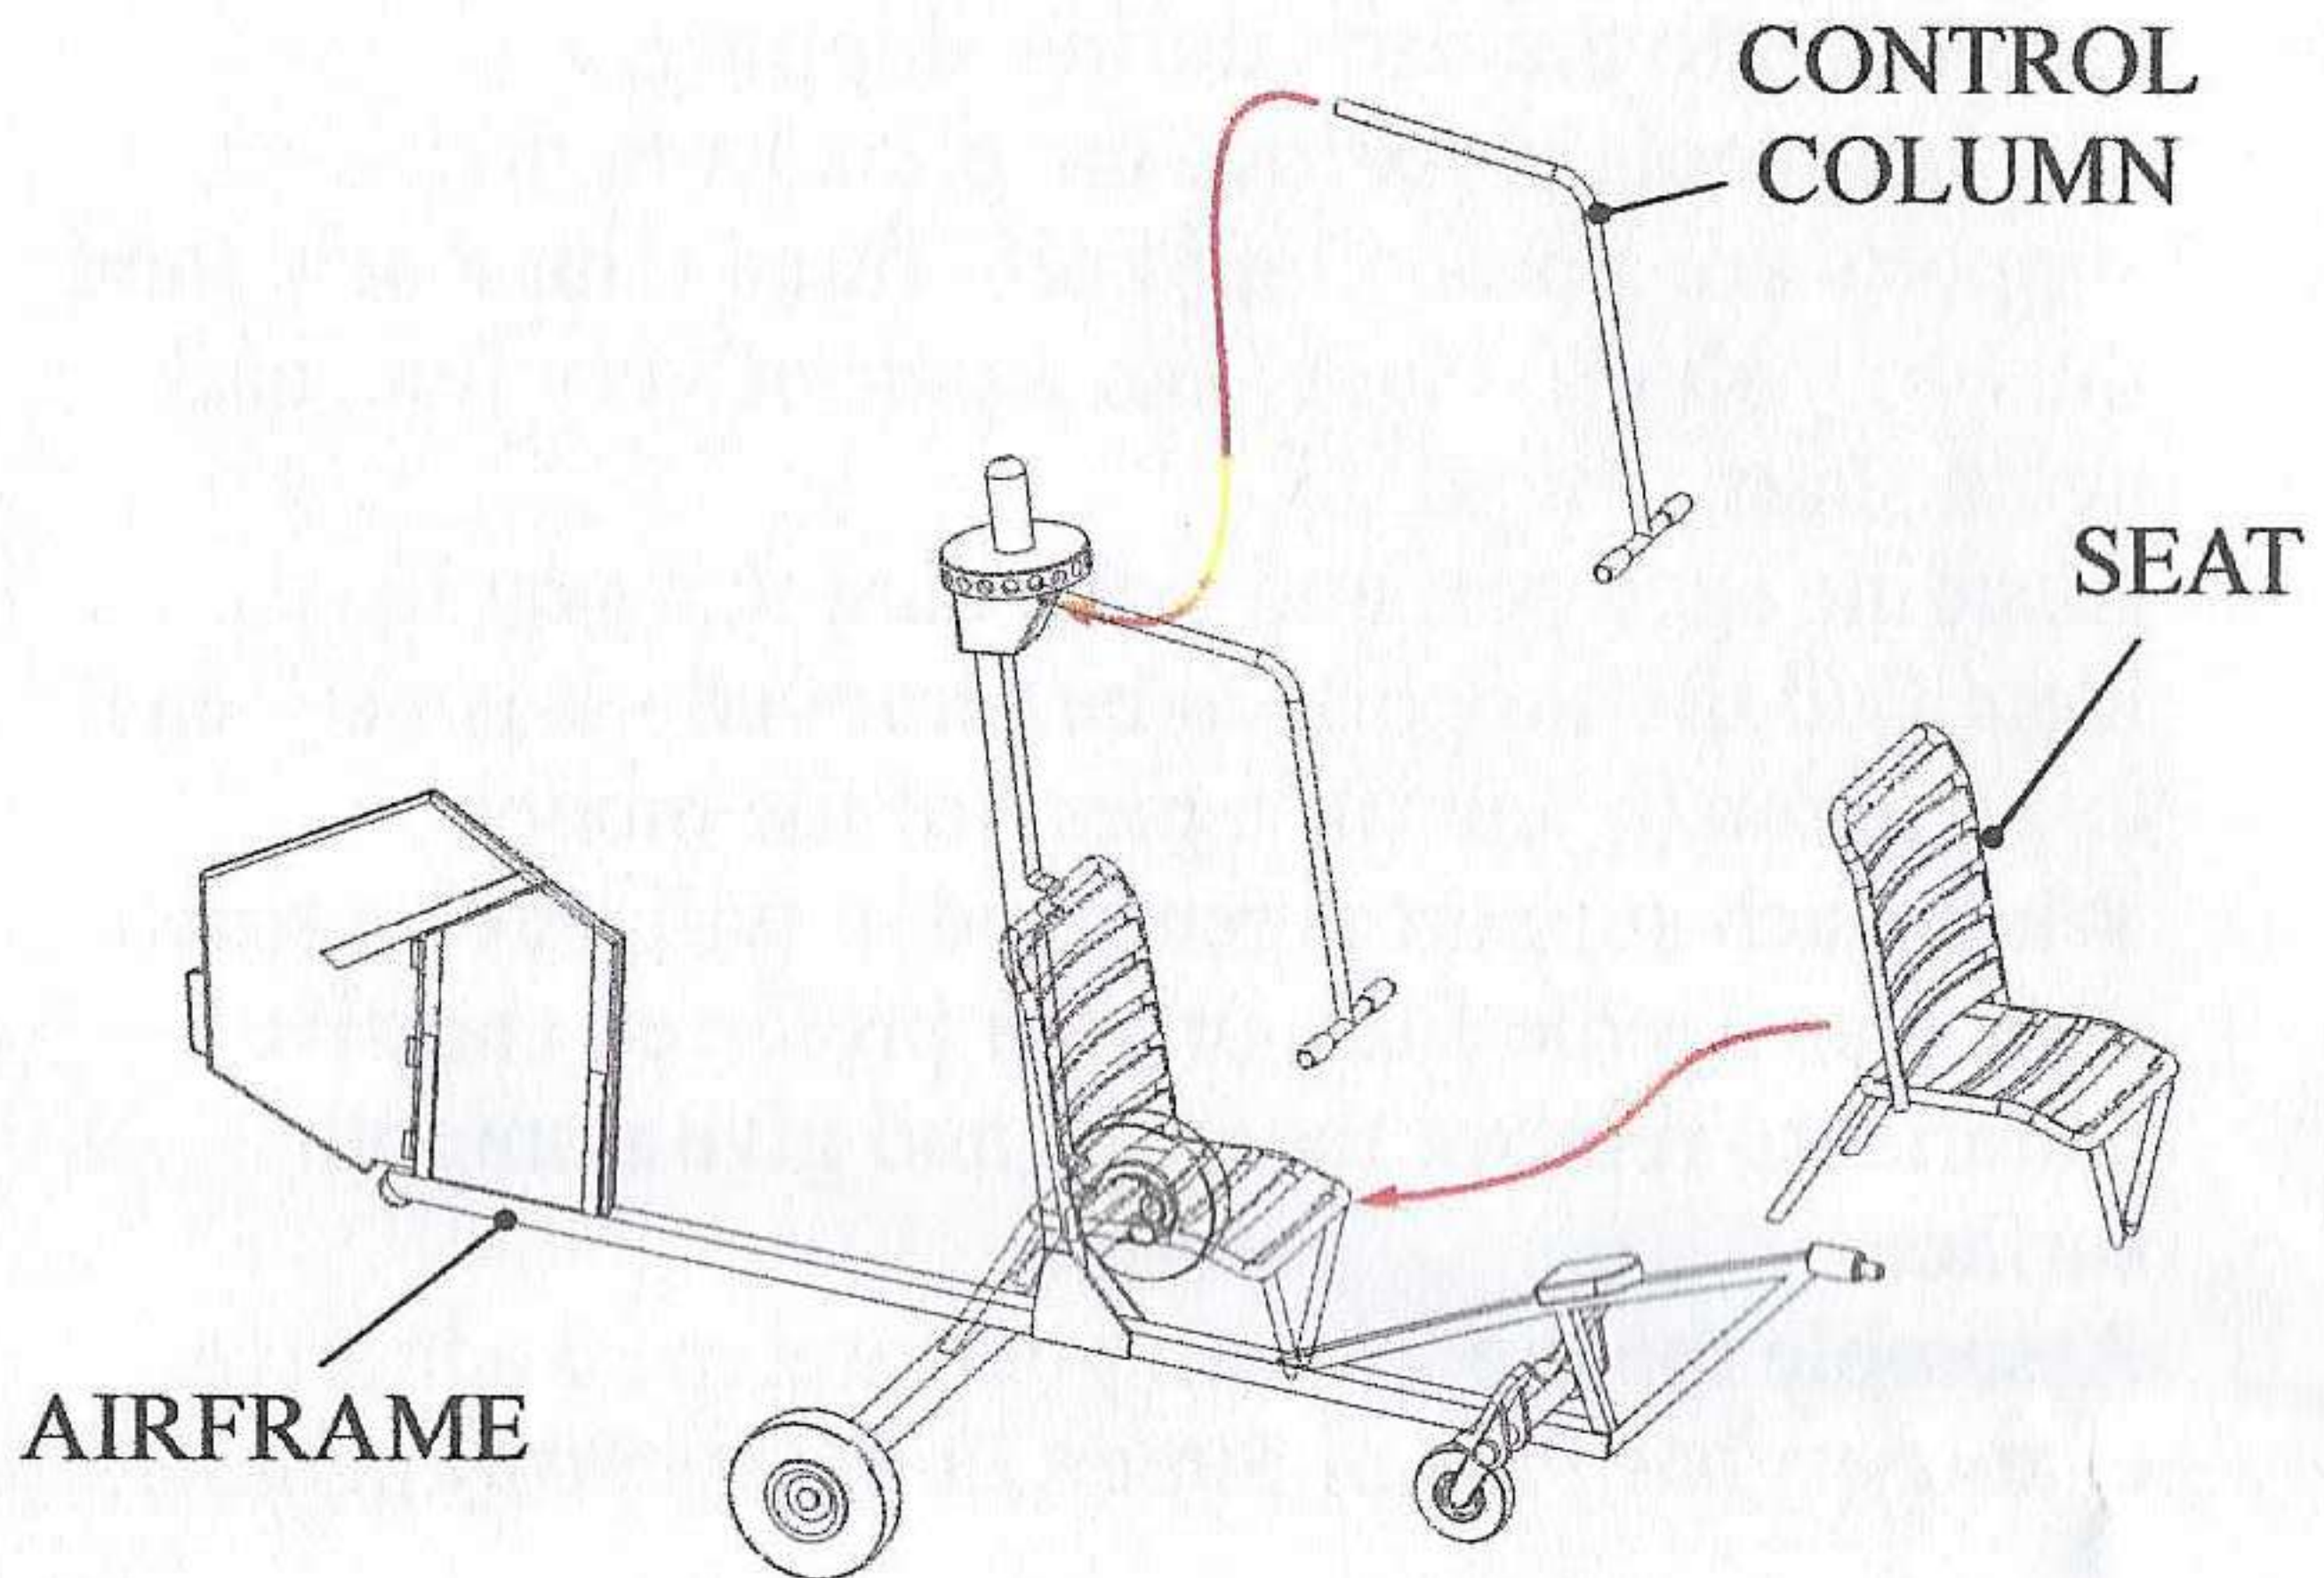

Figure 1
- A Airframe, seat and control column (see Figure 1).